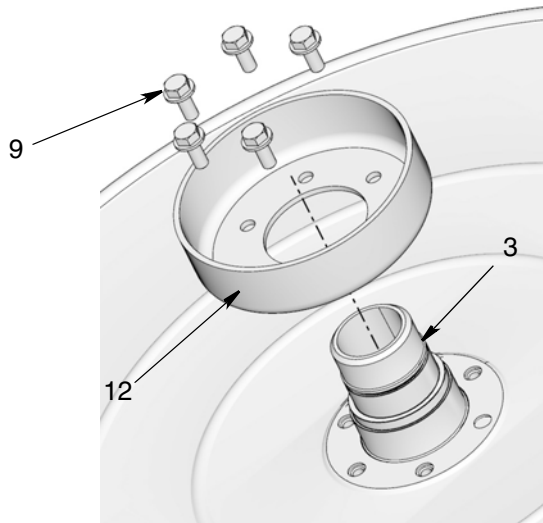

FIG. 26
- d. Remove screws (9) and brake hub (12). Support swivel (3) from inside (FIG. 26).